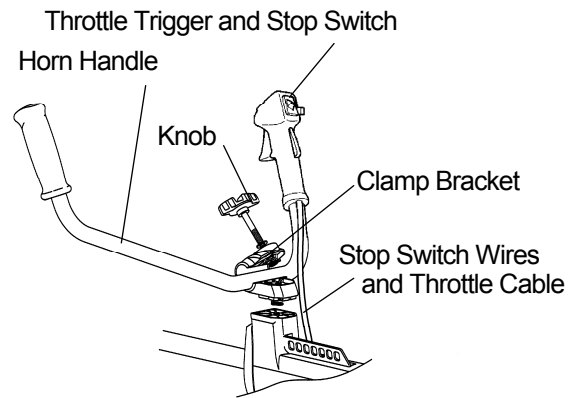

Fig.1
2. Insert the horn handle into the clamp bracket, as shown on Fig. 1. Note that the horn handle with the throttle trigger and stop switch goes on the right-hand side of the Brushcutter/ Grass Trimmer.